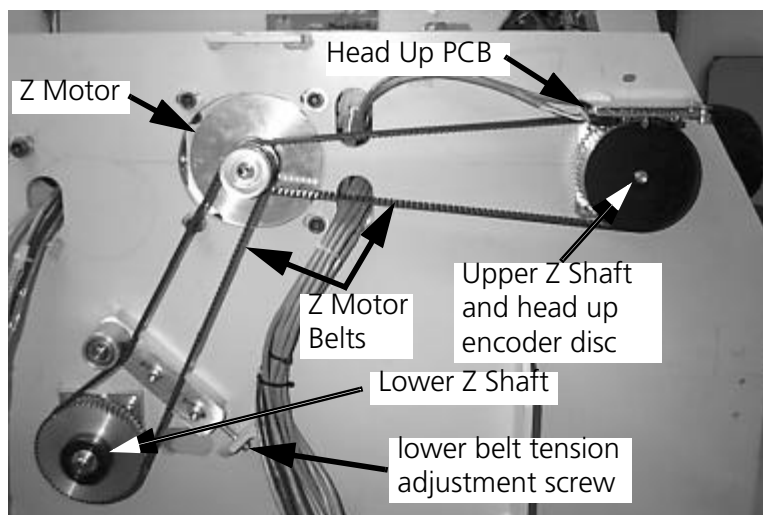

Figure 5-1
The synchronized movement in the embroidery heads and bed assemblies are driven by the Z drive system. This is a mechanical system of two shafts, with their associated pulleys and gears driven by a single motor. The upper Z shaft runs through each of the 6 heads and provides the movement for the needle bars and take up levers. The lower Z shaft runs through each of the bed assemblies and provides the hook assembly rotation for each of the beds. These shafts are connected by belts to the Z motor at the left end of the machine as shown in Figure 5-1.
2. Loosen the tension on the lower Z motor belt by rotating the tension adjustment screw shown in Figure 5-1.
6. Loosen the tension on the lower Z motor belt by rotating the tension adjustment screw shown in Figure 5-1.